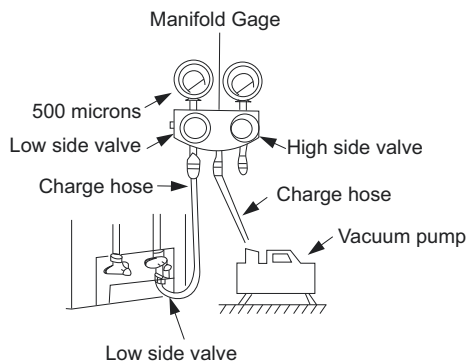

Fig. 10 — Manifold
3. Fully open the low side of manifold gage (see Fig. 10).